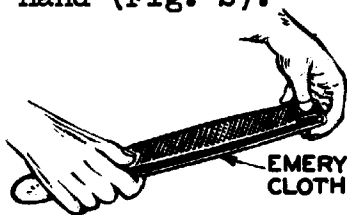

FIG. 3 HOLDING EMERY CLOTH AGAINST BOTTOM OF FILE
5. Grasp the handle of the file in the palm of the right hand and with the forefinger hold the other end of the emery cloth against the bottom of the file. Place the thumb on the top and the other fingers around the handle (Fig. 3).